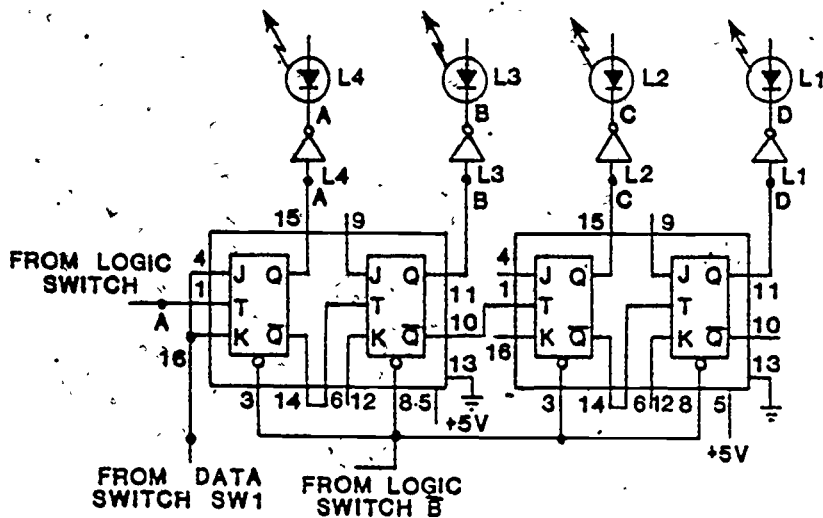

Figure 19. Binary down counter.
11. Require the circuit to reflect Figure 19.